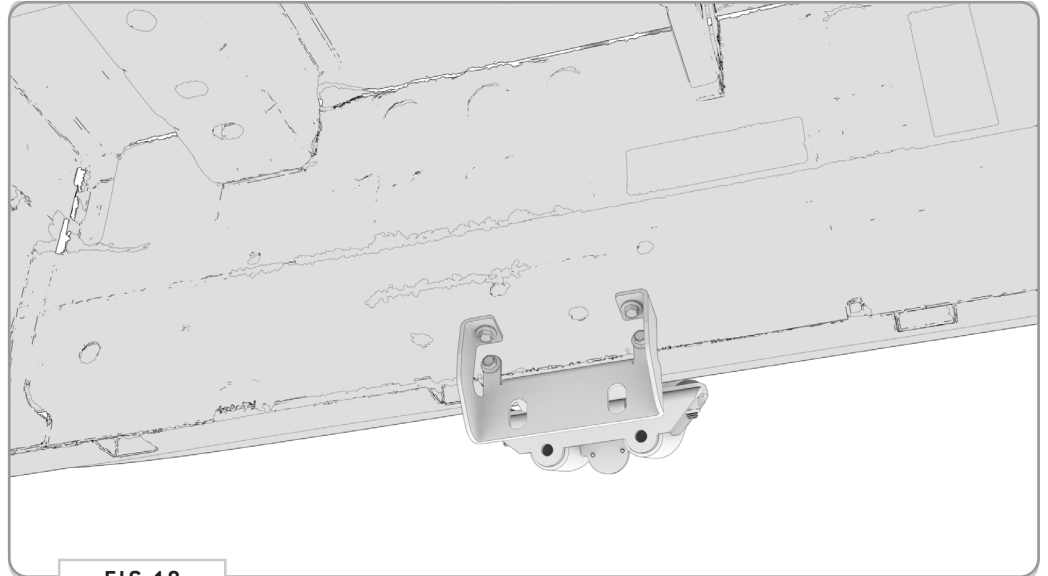

FIG 10
**3.1a Position Hangar Bracket:** Once you've determined where you'd like to install your **Surf Pole**, attach the **Hangar Bracket** to the van's **Pinch Seam** by driving **(2) 1/4-20 x 1 Self-Tapping Screws** through the front of the **Bracket** in the locations shown in **FIG 10+11**.
**3.2a Secure Hangar Bracket:** Secure **Hangar Bracket** to **Pinch Seam** using **(4) 1/4-20 x 1 Self-Tapping Screws** in the locations shown in **FIG 10+11**.